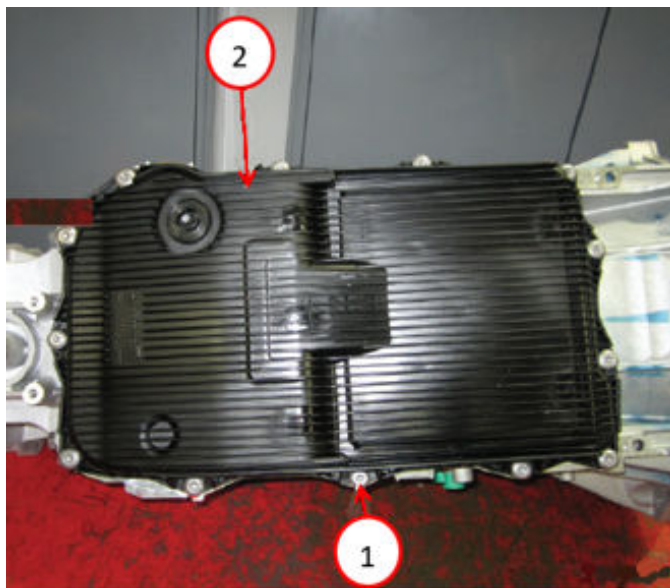

Fig. 7
9. Remove the 13 transmission oil pan bolts Fig. 7.